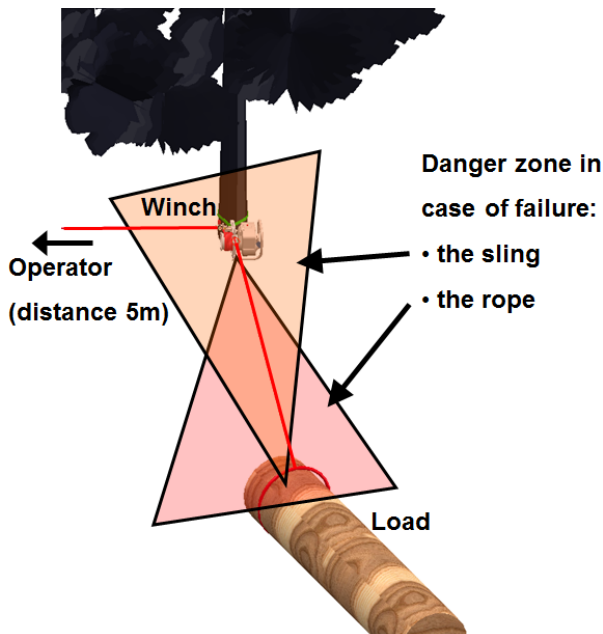
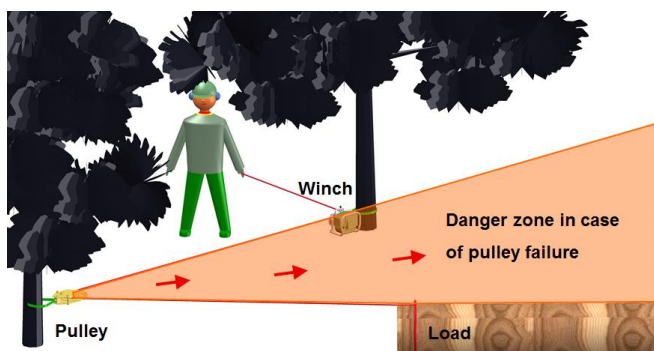

Fig. 1: Danger zone in case of failure of the anchor or rope
Fig. 2: Danger zone in case of pulley failure (if used)
13. Staying under floating or sloping loads and inside the rope angle (see Fig. 1 and 2) is prohibited.
The danger zones in Fig. 1 and Fig. 2 need to be cleared before starting winching operation. The operator should always be positioned 5m from the winch.
Check before starting work that the dangerous zone is cleaned (Fig. 2).